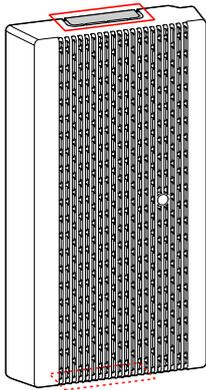

Figure3-48 Wiring holes diagram of battery pack
Step 1 Knock off the right wiring holes (as shown in Figure3-48) of battery packs.